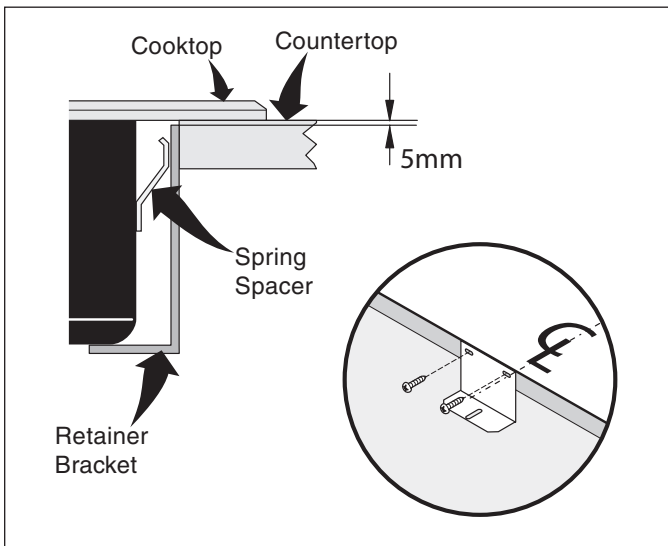

Figure 8
2. Install the retainer brackets. See Figure 8.
The retainer brackets **MUST** be installed, to meet local codes or, in their absence, with the National Electrical Code ANSI/NFPA No. 70—latest edition (see Figure 8).